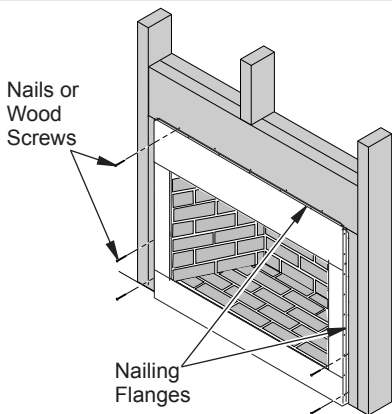

Figure 7 - Attaching Firebox to Wall Studs
5. Attach firebox to wall studs using nails or wood screws through holes in nailing flange (see Figure 7).